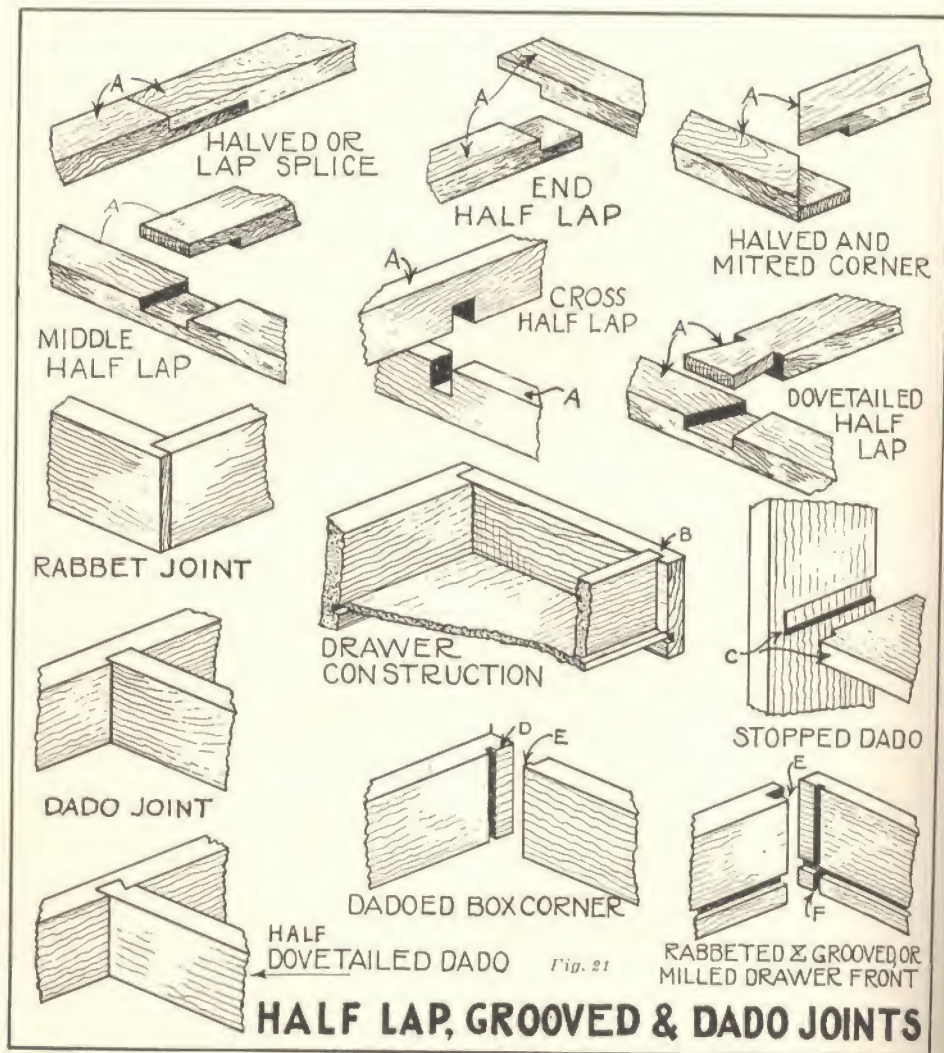

Fig. 21
**Halved, Half-Lap Grooved and Dado Joints**—(Fig. 21).—In laying out the cuts make all gauge marks and measurements from the face side A. Use the Atkins Silver Steel Back Saw No. 2, with 12" blade in cutting the shoulder (Fig. 22) and the same, or Atkins Silver Steel Rip Saw in making the depth cuts (Fig. 23). In the lock joints, the depth cuts must be finished with a chisel.
The Halved, Spliced and Corner Joints (Fig. 21) are used in lengthening boards, and in screens and other frames that may be fastened with glue, clinch nails or screws. In laying out these joints, be sure and work from the face side A at all times. Often the rabbeted or shouldered joint is used in making drawers as suggested. Instead of the dado joint being made at B, a butt joint may be used.
Place straight edge outside to coincide with knife mark on either side; hold it with brads as shown at D, in (Fig. 24) or with hand-screws if preferred. The saw cuts must be made from the back edge and finished at the front with a chisel. A router plane will make the groove of uniform depth. In making a box with dadoed corners (Fig. 21), the piece D is the weakest place in the joint, hence the tongue E may be less than  $\frac{1}{8}$ " thick. In making the milled drawer front, E (Fig. 21) should fit the groove F with a "push" fit.
The advanced homemaker with machine equipment can machine these joints. The dovetailed dado joint (Fig. 21), is very strong; often adaptations of it are found in 18th century chests of drawers.